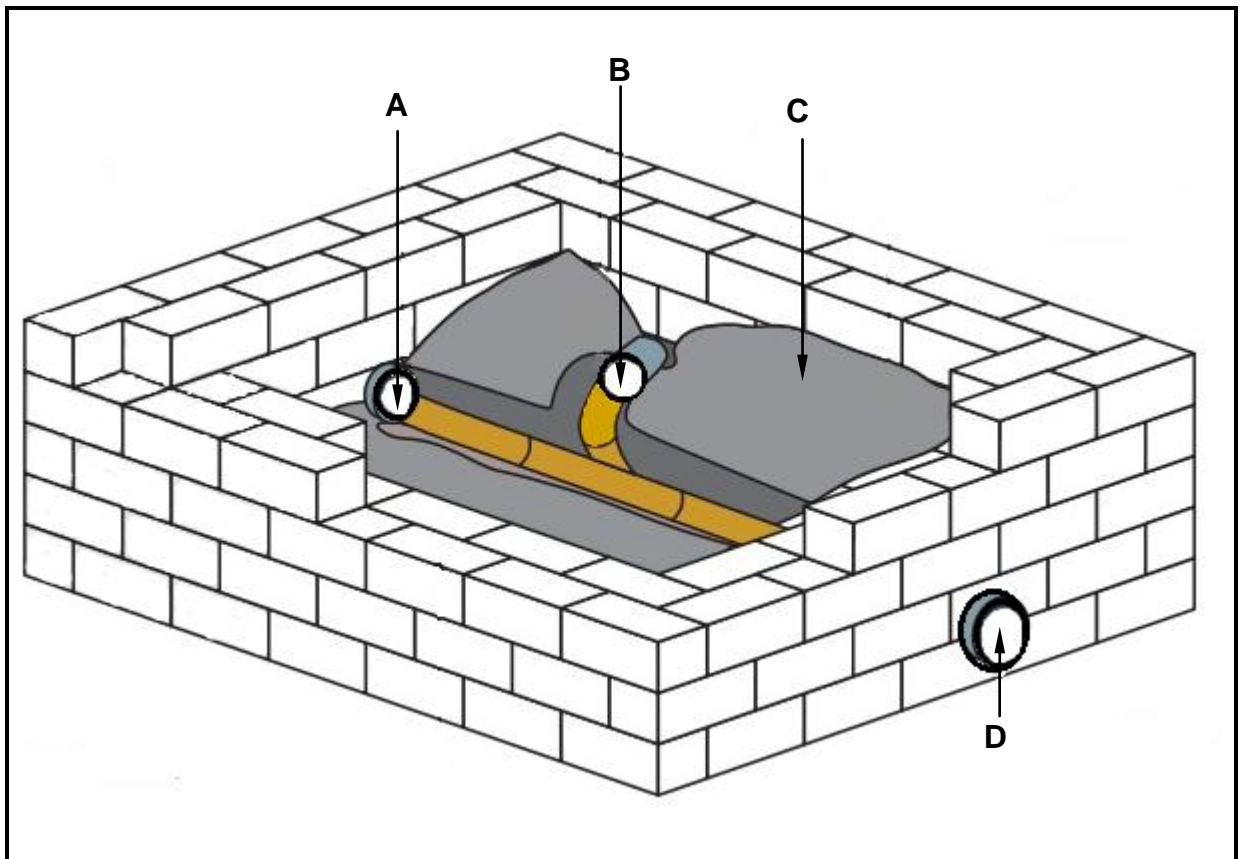

FIGURE 3.1
3.1 FIGURE 3.1 below is an illustration of a manhole. Study the illustration and answer the questions that follow.